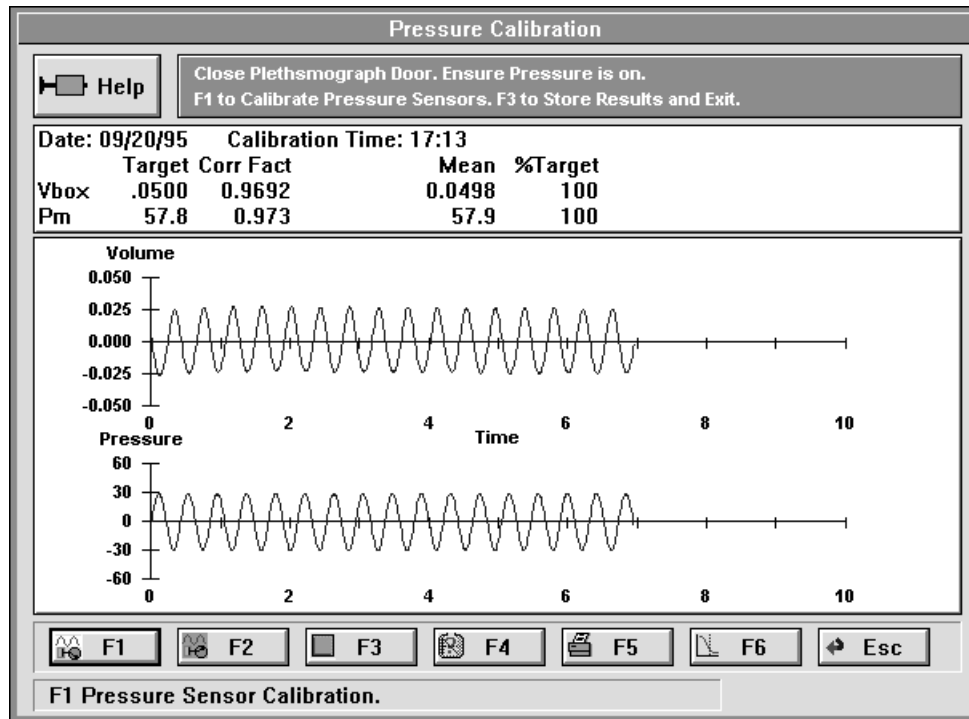

Figure 2-13 Pressure Calibration window
1. Select **F4** on the **Flow Volume Calibration** screen to access the Pressure Calibration window (Figure 2-13).
1. Select **F4** on the Flow Volume Calibration screen to access the Pressure Calibration window (Figure 2-13 on page 22).